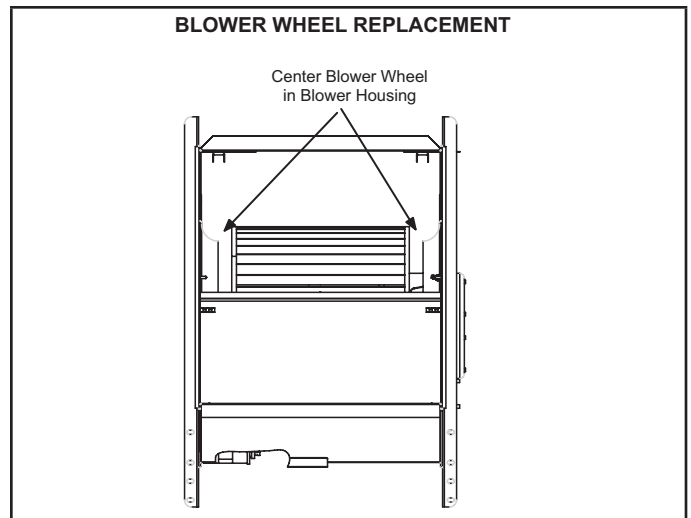

FIGURE 12
If replacing the indoor blower motor or blower wheel is necessary, placement is critical. The blower wheel must be centered in the blower housing as shown in figure 12. When replacing the indoor blower motor the set screw must be aligned and tightened with the motor shaft as shown in figure 13.
- 5 - The electrical connectors of the motor should be facing down to form a drip loop (figure 12). This will direct moisture away from the motor and its electric connections on the motor